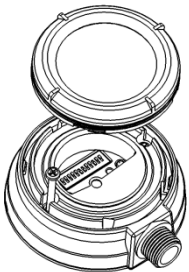
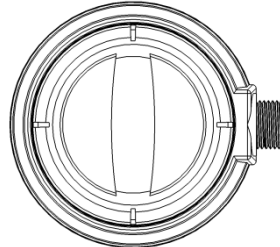

Figure 1 – Lens installation
Figure 3 – Aisle lens installed 90°
1. To attach lens: Place lens assembly flush onto sensor module and rotate clockwise approximately five degrees to lock into place (See Figure 1). Lens may be installed on sensor module rotated ninety degrees (See Figures 3 and 4).